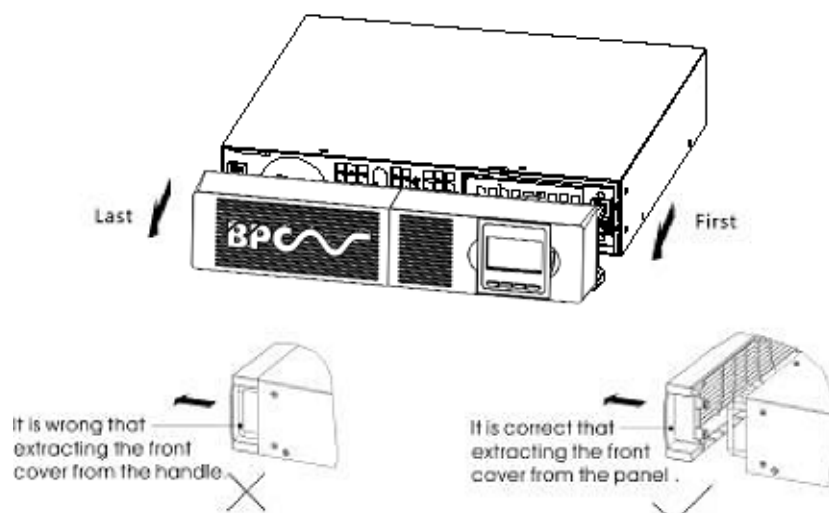

Figure 8 - Removing the BC Front Cover
(1) To install the optional BC for a UPS
a) Remove the front cover of each BC and UPS (see Figure 8).